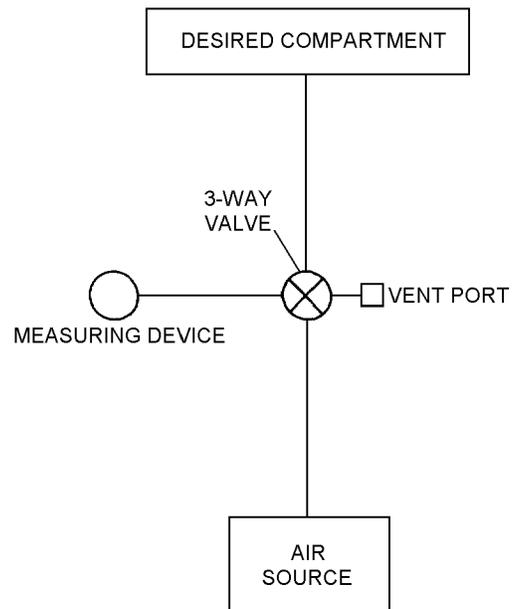

Figure 23-3. Test Fixture Schematic
1. Compare markings on preserver to those listed in figure 23-3.
23-39. Test Fixture. A suggested test fixture, consisting of a three-way valve, pressure gage, and adapters for compartments being tested, is shown in Chapter 3. Test fixtures must be fabricated to meet the requirements of the schematic shown in figure 23-3.